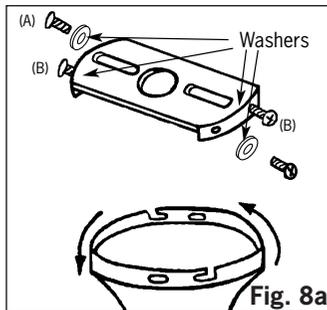

Fig. 8a
- Place two screws and washers on mounting plate (marked B on Fig. 8a) corresponding to slots in canopy. Screw in two turns.
- Position canopy against mounting plate aligning slots to screws (marked B on Fig. 8a) then turn to lock.
- Position and tighten the two screws and washers (marked A on Fig. 8a) then tighten the two screws (marked B on Fig. 8a).